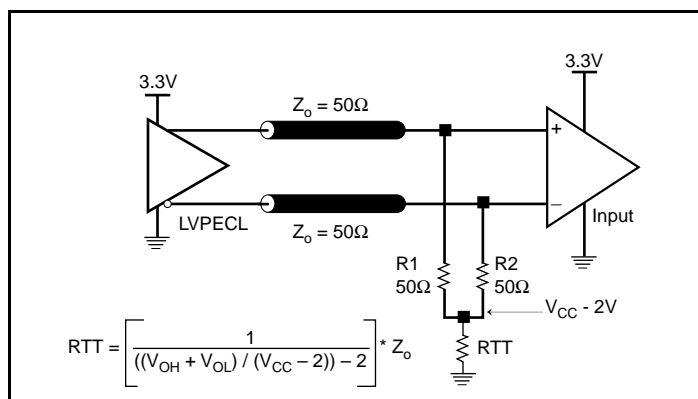

Figure 5A. 3.3V LVPECL Output Termination
*Figures 5A and 5B* show two different layouts which are recommended only as guidelines. Other suitable clock layouts may exist and it would be recommended that the board designers simulate to guarantee compatibility across all printed circuit and clock component process variations.